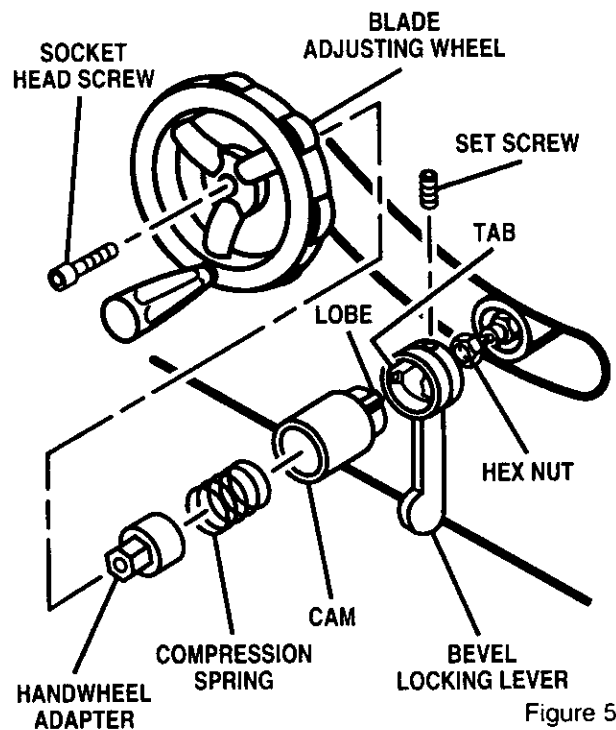

Figure 50
- Replace the cam so that the lobe is against the tab as shown in Figure 50. Make sure the cam is seated in the lever.